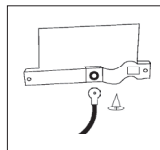

Figure 1
3. To install the ZBS unit as a stand-alone unit, attach a ground wire (minimum #10 AWG for Primary Protector, minimum #14AWG for Secondary Protector) to the ring terminal provided. Using the self tapping screw provided, attach the ring terminal to the base of the unit. Using screws (or bolts) as appropriate, mount the unit to the flat surface (see figure 1).